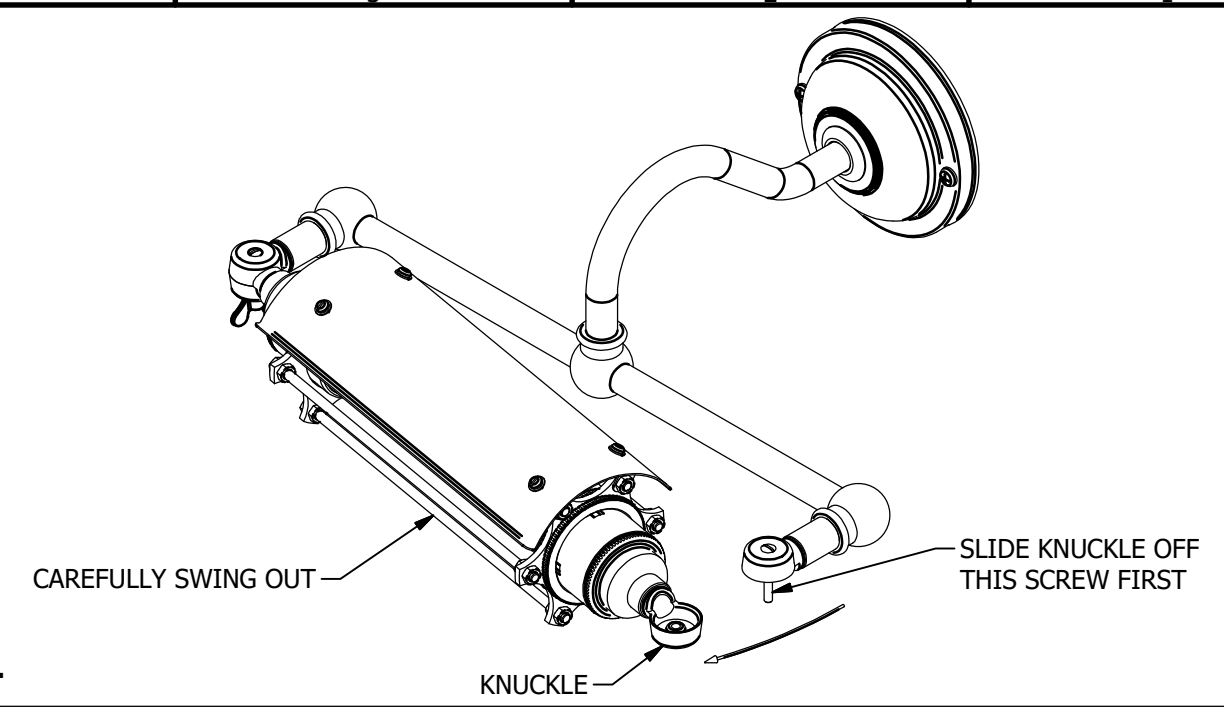

Figure 2.
- 3) Slide knuckle off wing nut screw then carefully swing out the cage / bulb assembly. (Figure 2.)